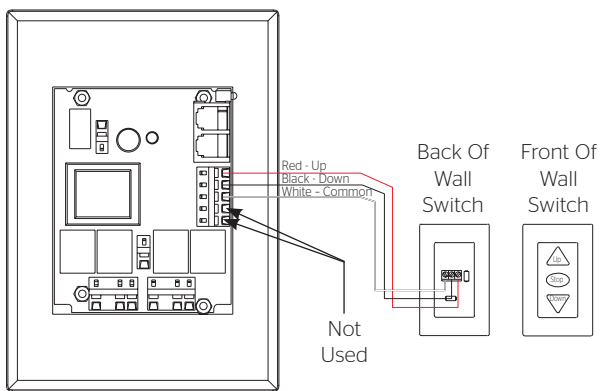

Figure 5
3. Connect the wire from the switch to the switch terminal as shown in Figure 5.